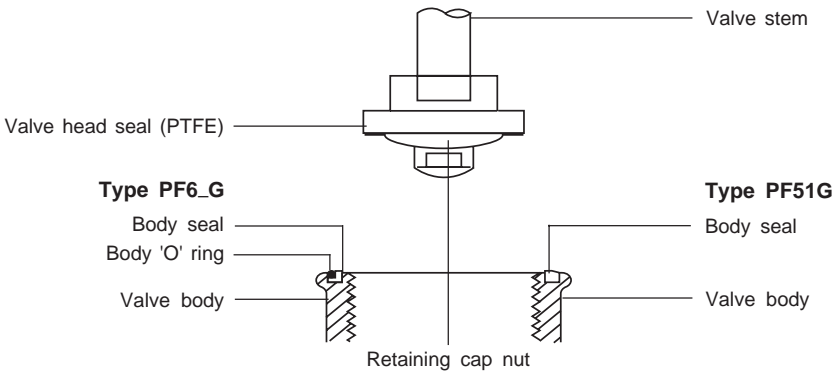

Fig. 4
- Reassemble in reverse order referring to the drawings showing correct location of components, see Figure 4 and torque settings (page 10 of IM-P373-05).